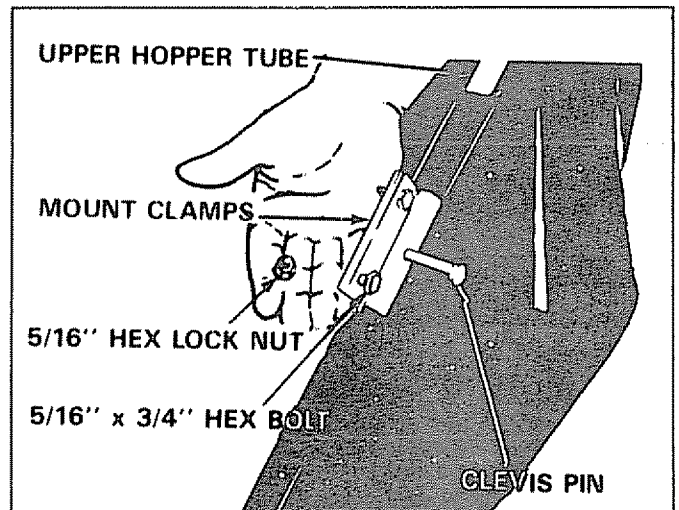

FIGURE 22
13. Assemble mount clamps to each side of upper hopper tube. Place one clevis pin through clamps, hopper bag and hopper tube, then secure clamps together with two 5/16" x 3/4" hex bolts and 5/16" lock nuts. See figure 22. Tighten securely.